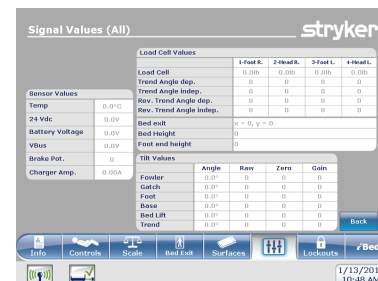

Figure 27f: Signal Values
- SIGNAL VALUES** (Figure 27f)